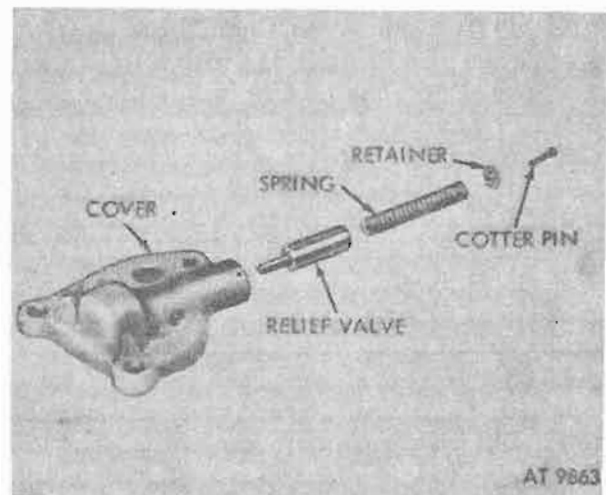

Figure 4-185. Oil pump pressure relief valve.
b. *Remove Pump Cover Assembly.* Remove hex-head capscrew and washer assembly holding oil pump cover assembly to oil pump body and lift off cover assembly (fig. 4-185).
cotter pin from cover assembly and remove retainer, spring, and plunger (fig. 4-185).